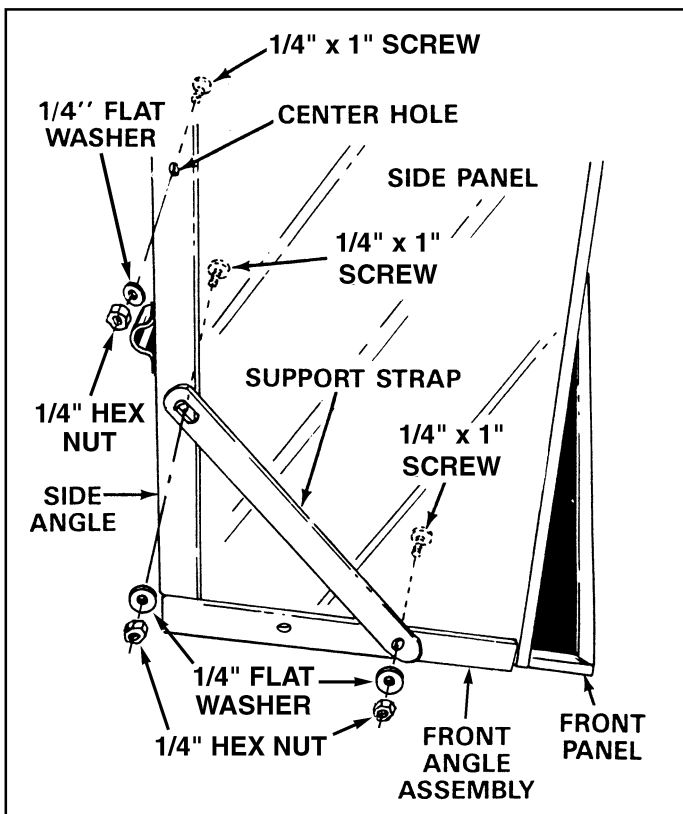

FIGURE 7
10. Place one side panel in position against a side angle and down on top of the front panel. Start one 1/4" x 1" screw through the **center hole** in side panel and side angle. Secure with hex nut and flat washer. See figure 7. **Make only finger tight at this time.**
11. Start one 1/4" x 1" screw through front hole on side panel and side angle. Start another 1/4" x 1" screw through top hole on side panel and front angle assembly. Next, place a support strap over these two screws and secure it with flat washers and hex nuts, **making only finger tight at this time.** See figure 7.